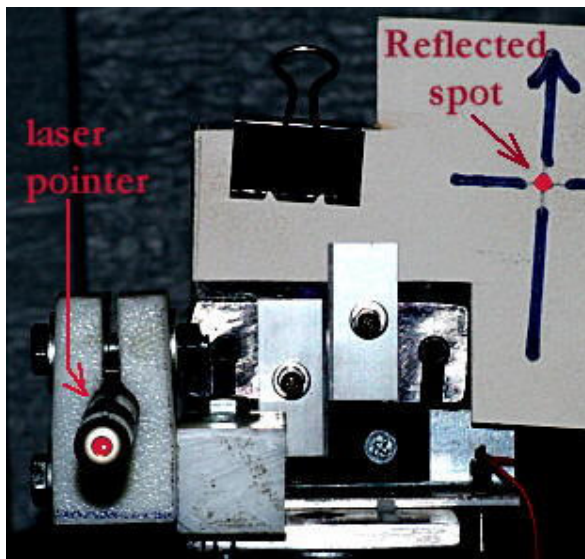

Fig. 16. Quick Laser Optical Alignment. Image credit: Bill Thomas
- In order to avoid doing this again, aim an attached laser pointer at the center of the mirror. Lock the laser pointer down. Mark where the returning beam strikes an attached card – Fig. 16.
2. Rotate the test mirror until the returning beam hits the attached card where previously marked – Fig. 16.